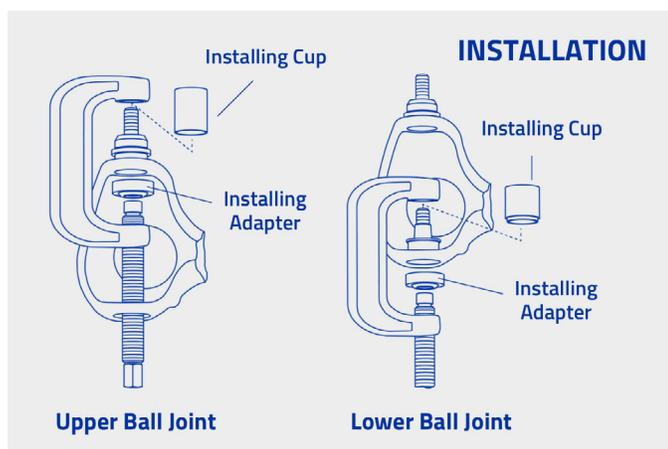

Figure 6
- C. Assemble the ball joint press components as shown in Figure 6. Check the alignment of all components. Tighten the forcing screw until the ball joint is firmly seated.